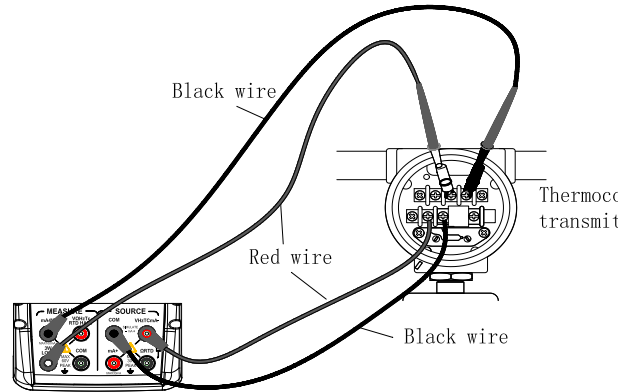

Figure 15 Using 24v loop power circuit supply
Step 2: Connect the calibrator with the loop current terminal of the converter as shown in Figure 15.